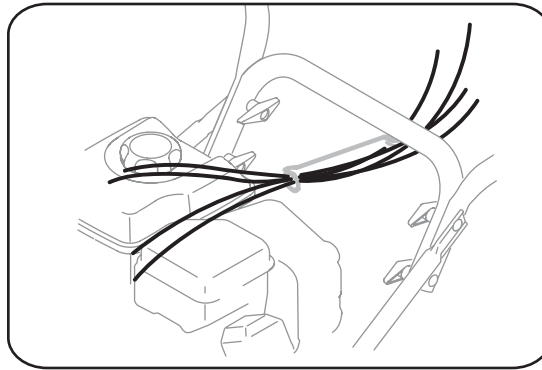

Figure 3-7
- Check that all cables are properly routed through the cable guide on top of the engine. See Figure 3-7.